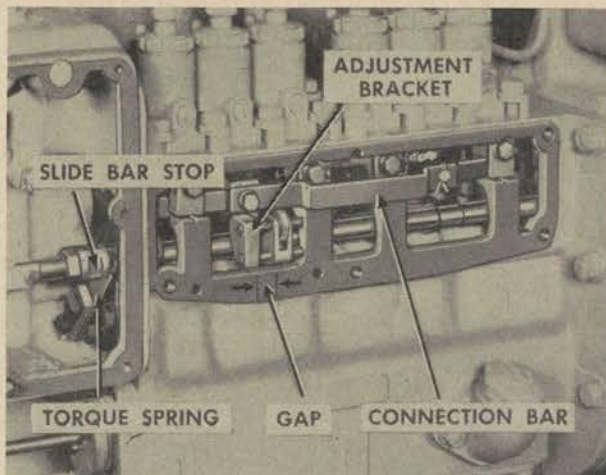

Figure 181. Full load speed adjustment.
- (e) Install the connection bar (fig. 181) between the two pump racks, using a capscrew in the rear rack and the special stud and cotter pin in the front rack.